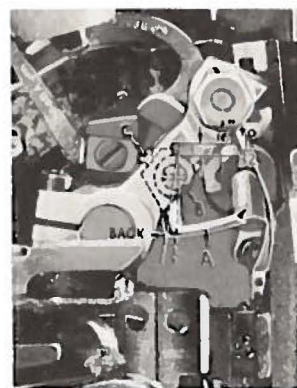

Fig. 7
Insert upper spreader (A, Fig. 7) in its holder. Screw (B) holds upper spreader in its holder and permits it to be pushed in or out or turned around its shank. Insert upper spreader holder into spreader shaft (if not already in place). Screw (C) on the clamp holds the upper spreader holder in the shaft. Locate upper spreader in its holder so that the shank extends $1/32$ to $1/16$ inch beyond holder (Fig. 7).